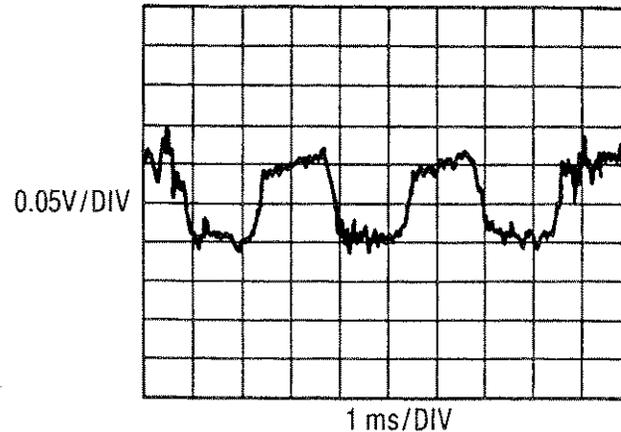

Figure 8-15. Selected Amplified AC
1. The selected amplified ac is not as shown in Figure 8-15 at test point A4TP3 or A4TP4 depending on which channel is active. Refer to A4 Input Amplifier Assembly on Service Sheet 6.